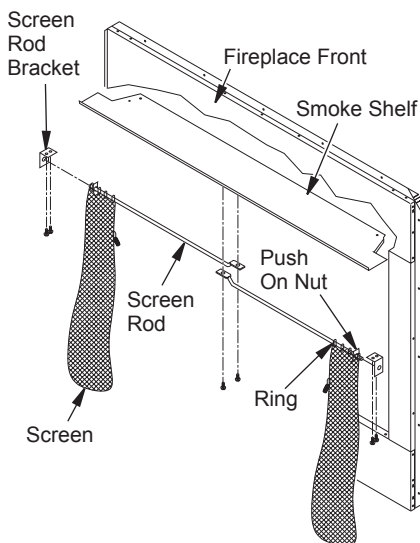

Figure 18 - Installing Fireplace Screen
2. Mount screen rod brackets on left and right side of smoke shelf with #8 x 1/2" screws provided (see Figure 18, page 29).
- Mount flat end of screen rod with #10 x 5/8" to center of smoke shelf (see Figure 18).